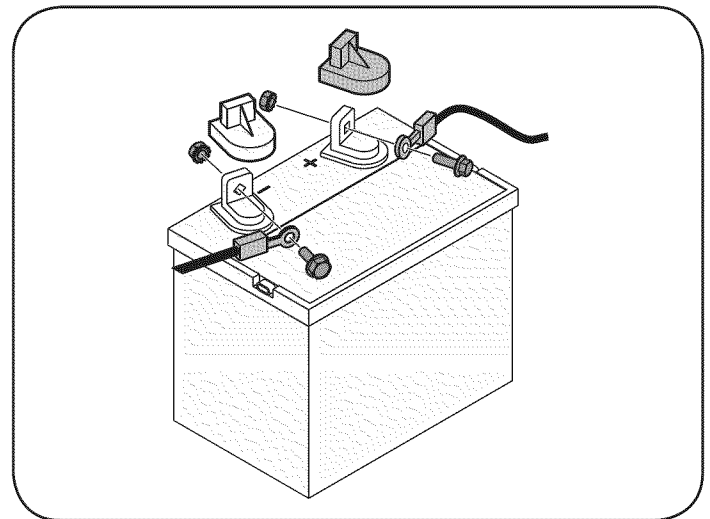

Figure 2
2. Remove the red plastic cover, if present, from the positive battery terminal and attach the positive cable to the positive battery terminal (+) with the bolt and hex nut. See Figure 2.
4. Remove the black plastic cover, if present, from the negative battery terminal and attach the negative cable to the negative battery terminal (-) with the bolt and hex nut. See Figure 2.